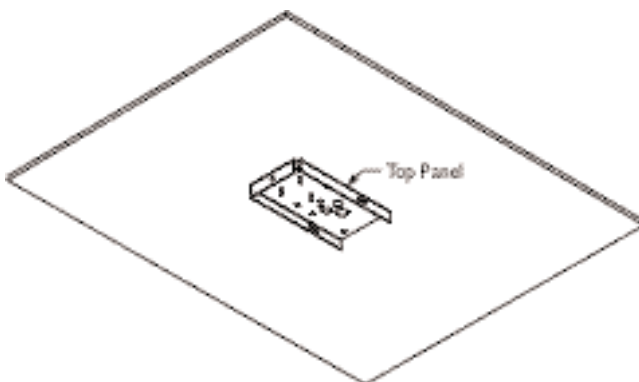

Figure 4 Positioning Top Panel on Ceiling
1. Position the top panel on the ceiling or the wall horizontally or vertically, depending on installation requirements. See **Figures 4 and 5**.